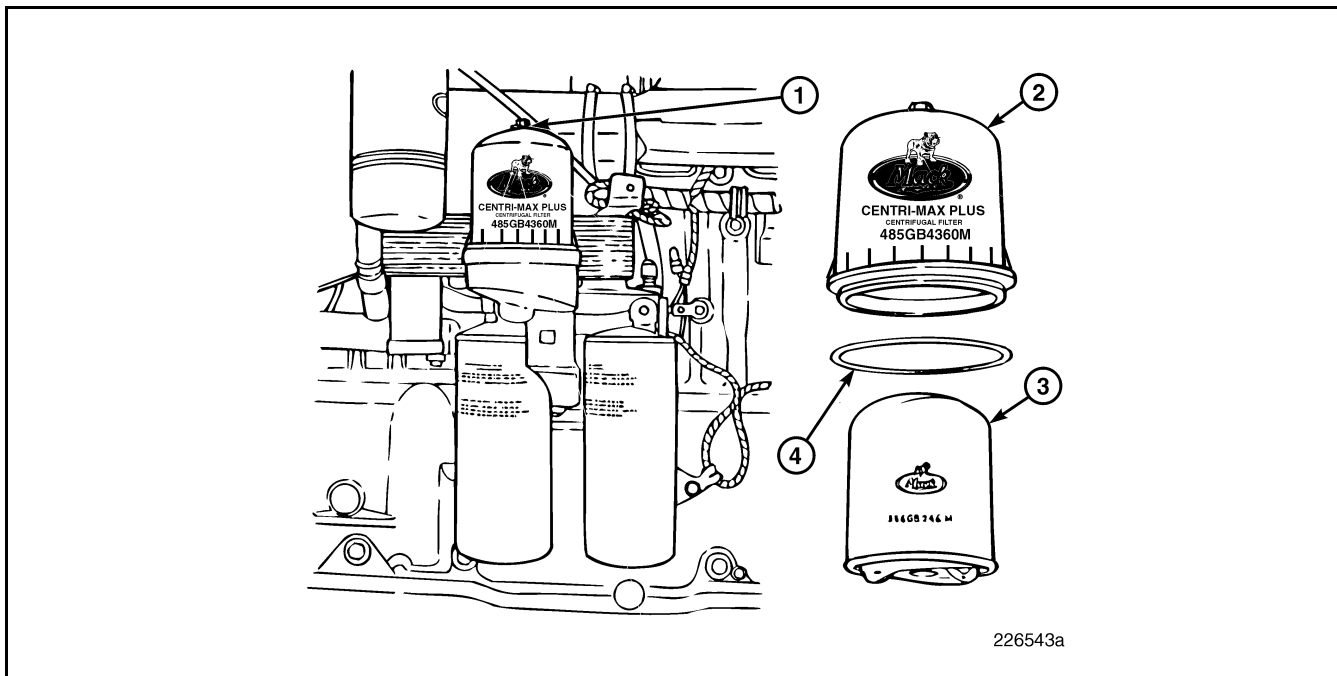

Figure 72 — Centri-Max® PLUS Oil Filter Assembly
1. To prevent contamination from entering the engine, thoroughly clean the area around the centrifugal oil filter (Figure 72) before removing the cover assembly.